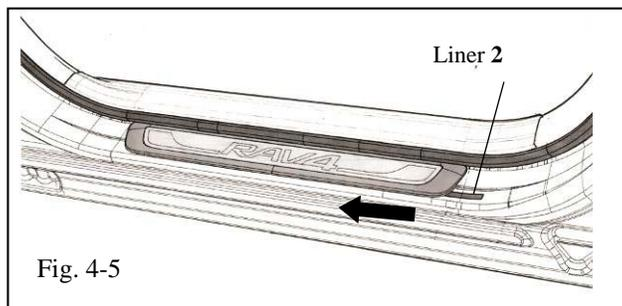

Fig. 4-5
- f. Still holding the protector in position, pull tape Liner 2 in direction of arrow to remove tape (Fig. 4-5).